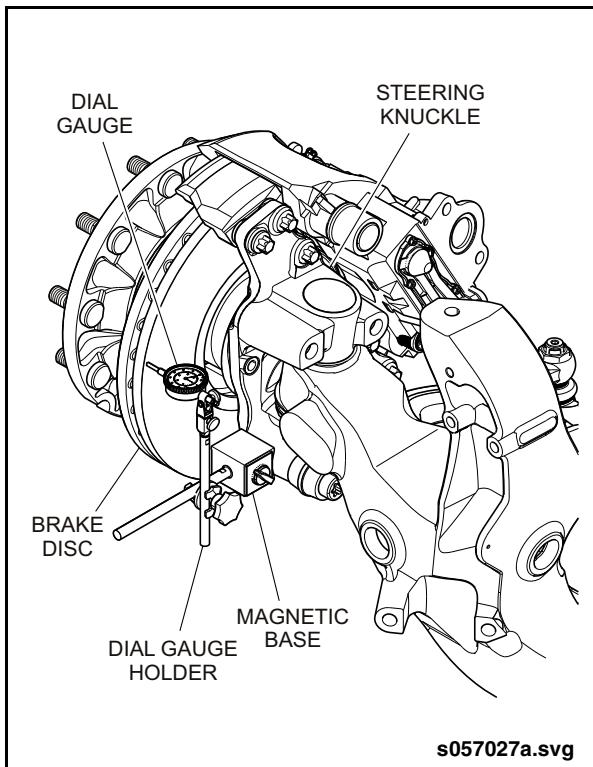

Fig. 1-9: Wheel Bearing Inspection
3. Attach the base of a magnetic dial gauge to any part of the steering knuckle. See "Fig. 1-9: Wheel Bearing Inspection" on page 11.